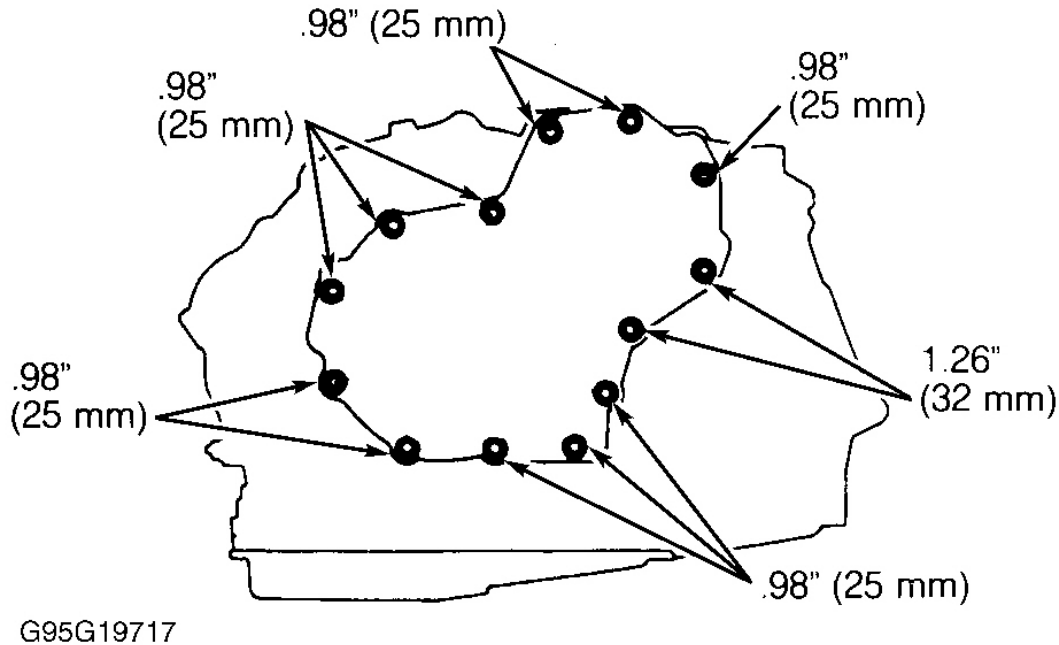

Fig. 89: Identifying Transaxle Rear Cover Bolts
16. Apply gasket sealer to rear cover sealing areas. Install transaxle rear cover and bolts. Ensure bolts are installed in correct locations. See **Fig. 89** . Tighten bolts to 89 INCH lbs. (10 N.m). Ensure intermediate shaft turns smoothly.